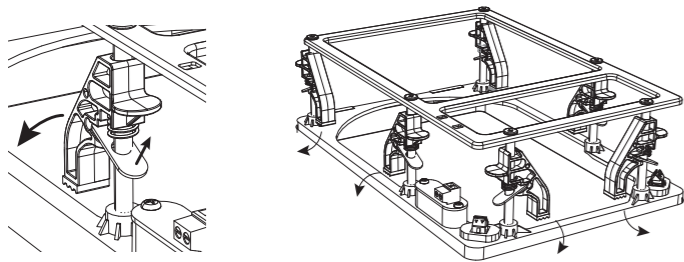
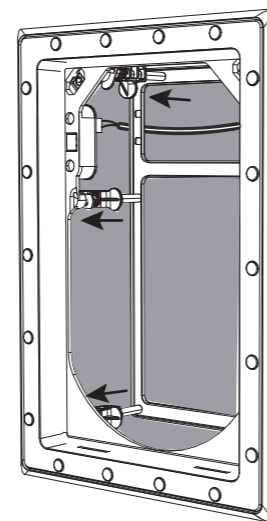

Fig. 9. Adjusting the Mounting Clamps from the Stowed Position
Fig. 11. Frame securely clamped to the Wall
2. Reach inside the frame, and rotate the mounting clamps to the "Clamping" position, where they can exert a clamping force to the rear of the aperture (Fig. 9 and 10). Press the frame in and tighten each clamp, so the frame is secured in position (Fig. 11).